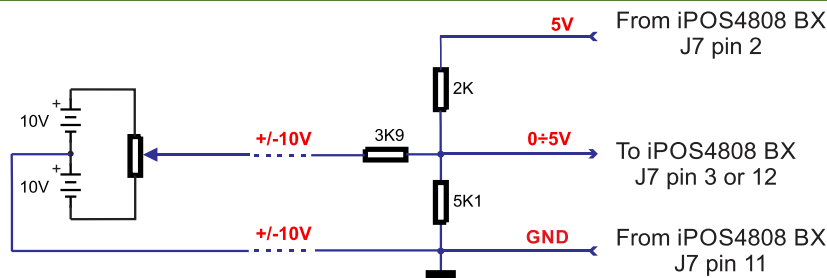

Figure 3.10. +/-10V to 0-5V adapter
1. Default input range for analog inputs is 0÷5 V for REF and FBDK. For a +/-10 V range, see Figure 3.10.